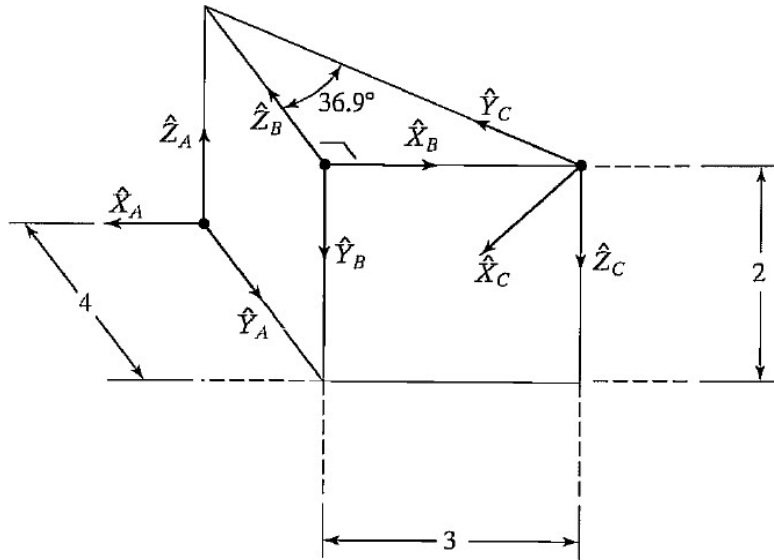

Fig. Q.1(a)
Q.1(b) Derive the D-H Parameter of 3R manipulator shown in Fig. Q.1(b) and find the homogeneous transformation matrix ${}^S T_T$.